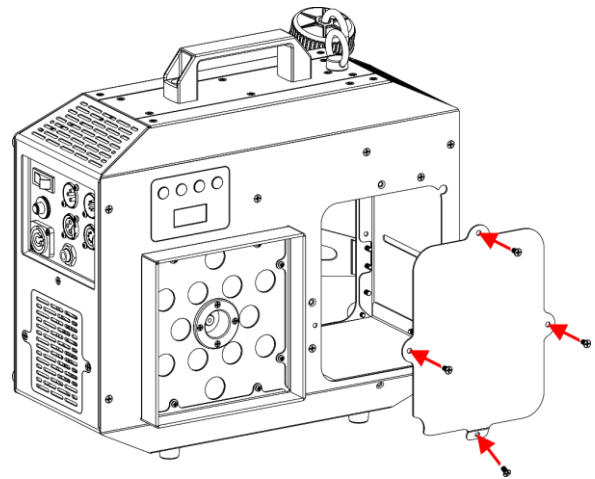

Fig. 19
- 14) Screw the 4 screws of the metal tank plate on the front side of the device, as shown in Fig. 19.